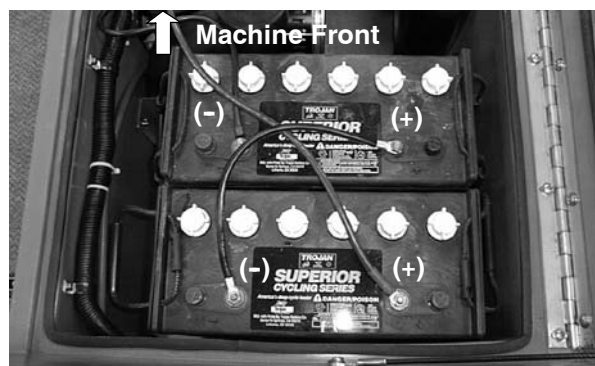

FIG. 2
3. Carefully position batteries into battery tray as shown (Figure 2).
5. Carefully connect battery cables as shown, red to positive and black to negative (Figure 2). Be certain that cable terminals are tight.